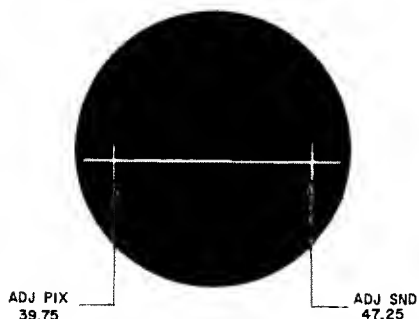
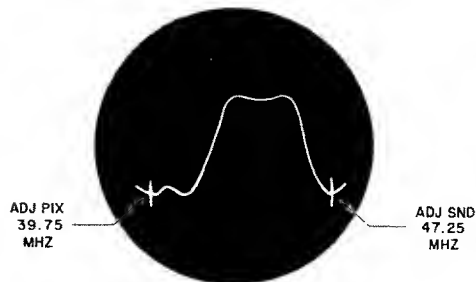

Figure 5.3 Centering Sweep Range by Use of ADJ PIX and ADJ SND Markers
Figure 5.4 Receiver I-F Response Between ADJ PIX and ADJ SND Markers
- 5.3.2 Turn on the ADJ PIX (39.75 MHz) marker and the ADJ SND (47.25 MHz) marker. Use the CENTER FREQUENCY control to center the sweep pattern as shown in Figure 5.3. With this setting the entire i-f response will be included in this range (Figure 5.4).
5.3.3 The HORIZ SWEEP switch of the 415 can be used so that the direction of increasing frequencies can be selected as desired. Usually, increasing frequency from left to right across the scope trace is preferred as shown in Figure 5.4.
- 6.1.7 Set SWEEP WIDTH at maximum. Turn on ADJ PIX (39.75) and ADJ SND (47.25) markers and use MARKER AMPLITUDE control to set marker amplitude as desired. Using the CENTER FREQUENCY adjustment, center the sweep on the oscilloscope screen as in Figure 5.3.